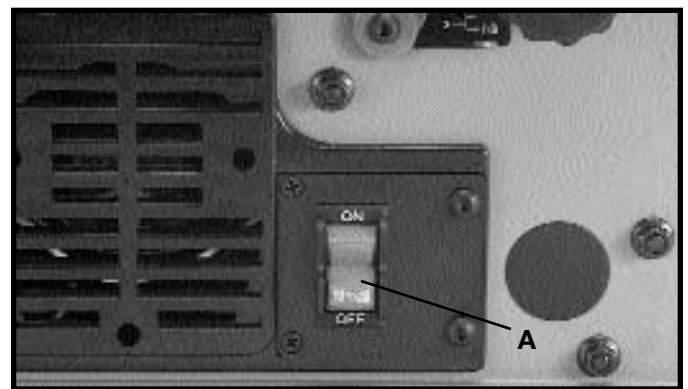

Fig. 21
The on/off switch (A) Fig. 21, is located on the front of the jointer cabinet. To turn the machine "ON," move the switch (A) to the up position. To turn the machine "OFF," move the switch (A) to the down position.